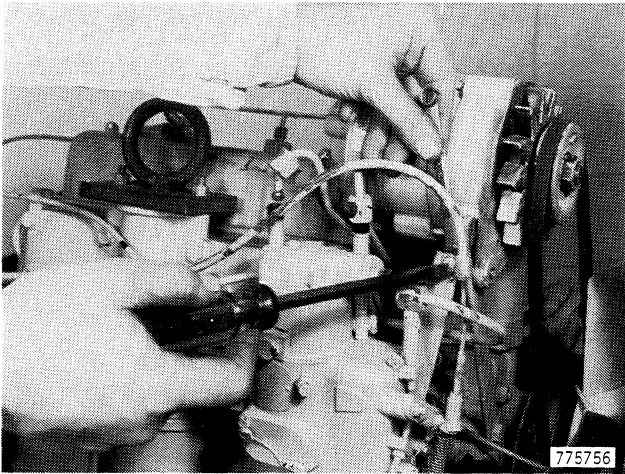

Figure 10
6. Remove the screw from the throttle cable clamp, Figure 10.